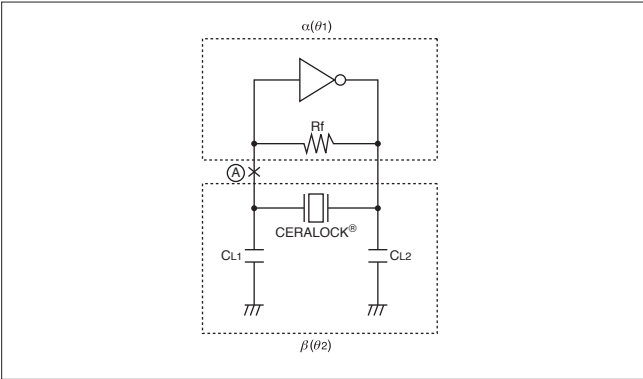
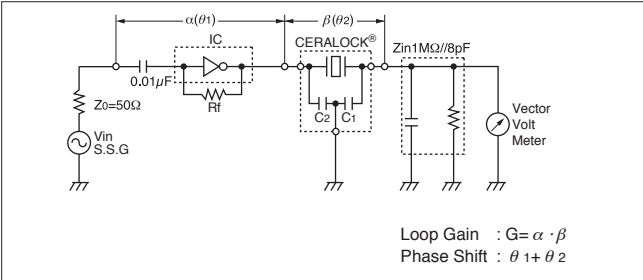
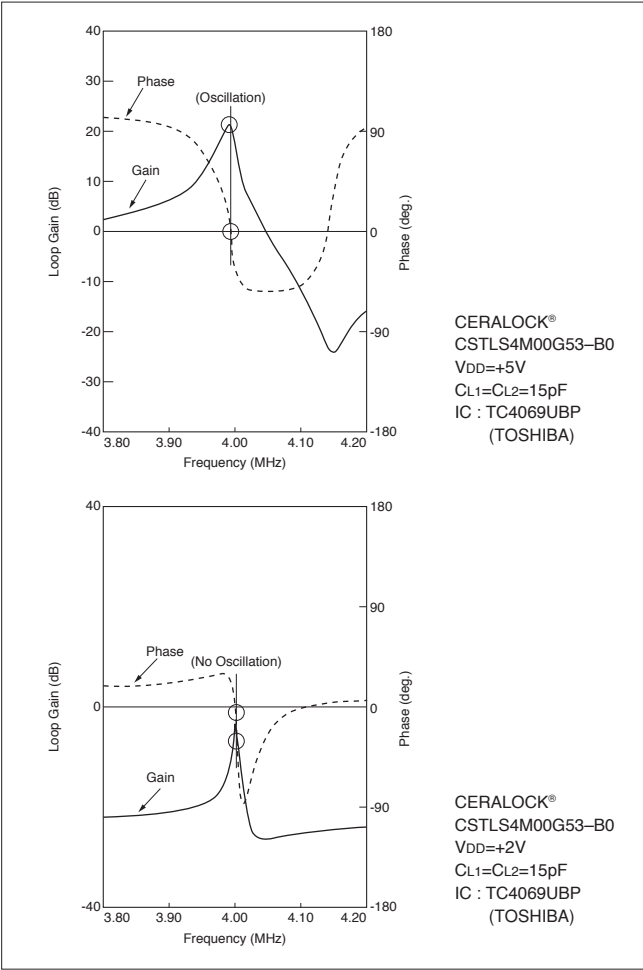

Fig. 2-8 Basic Oscillation Circuit with Inverters
Fig. 2-9 Measuring Circuit Network of Loop Gain and Phase Shift
Fig. 2-10 Measured Results of Loop Gain and Phase Shift
Fig. 2-8 shows the basic oscillation circuit with inverter. In an open loop circuit by cutting at point ①, it is possible to measure loop gain  $G$  and phase shift  $\theta$ . Fig. 2-9 shows the actual measuring circuit, and an example of the measuring result is shown in Fig. 2-10.